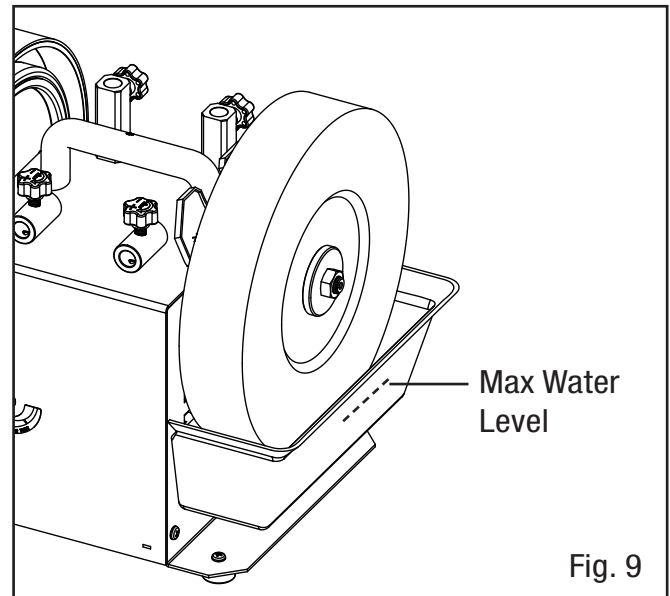

Fig. 9
1. Fill up the container with clean, cold water up to the "MAX WATER LEVEL" indicated on the inside of the reservoir (Fig. 9).